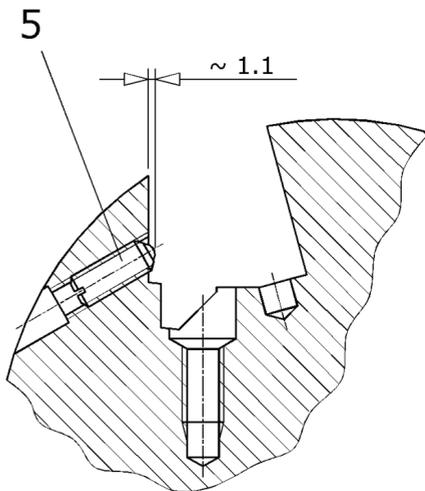

Fig.4
2. Clean the set screw (6) and threaded hole in the centrifugal wedge (3), as well as the spring-loaded ball screws (5) and threaded holes in the tool body completely from glue residues using a solvent.
3. Treat the spring-loaded ball screws (5) with screw securing paste (e.g. LOCTITE) and screw them into the provided threaded holes of the tool body. The spring-loaded ball screws must project approx. 1.1 mm over the knife seat's surface (see Fig. 4).
4. Turn the screws (4) with the Torx key into the tool body's corresponding threaded holes until the knife carrier (1) can be laterally pushed-in.
6. Turn the screws (4) at the specified torque of 5 Nm with the corresponding torque wrench.
8. Treat the set screw (6) with screw securing paste (e.g. LOCTITE) and screw it into the centrifugal wedge's threaded hole. Make sure that the set screw's non-threaded cylindrical end part engages in the knife seat's respective hole. Turn the